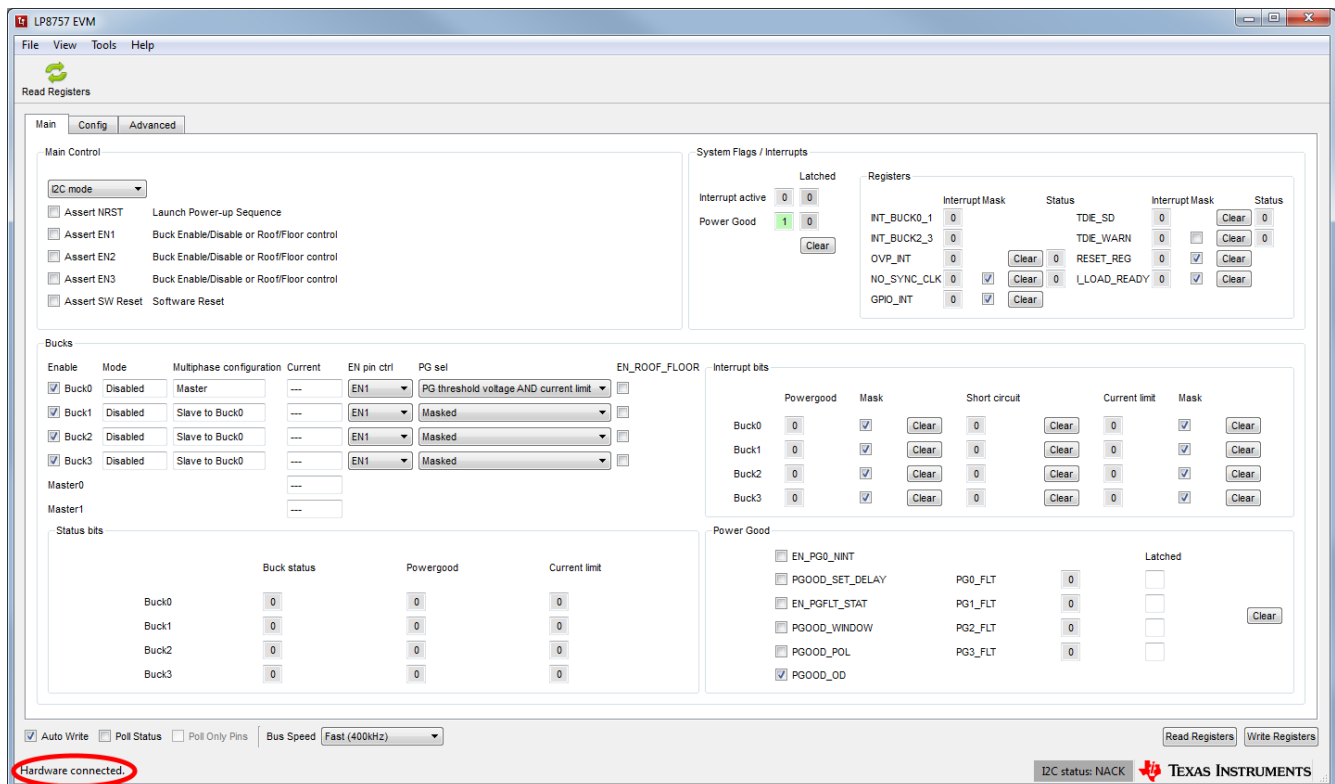

Figure 3-5. Evaluation Software Graphical User Interface (GUI) When Board Connected
2. On the Evaluation SW window bottom right corner you should see text *Hardware connected*. Refer to Figure 3-5.